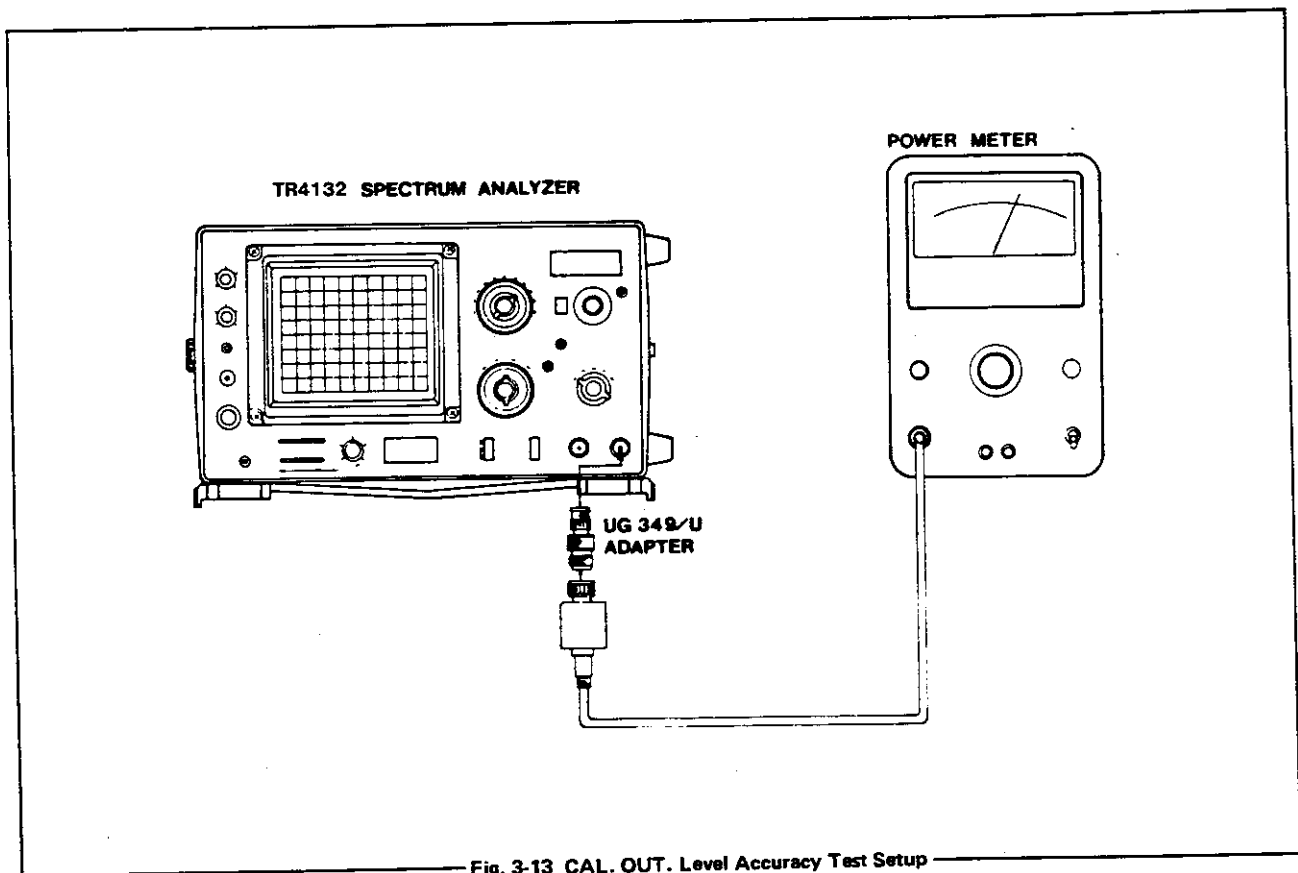

Fig. 3-13 CAL. OUT. Level Accuracy Test Setup
(1) Connect the equipment to **CAL. OUT.** of the instrument as shown in [Fig. 3-13] and measure the level of the calibration output signal.
(2) Check that the measurement reads as follows: